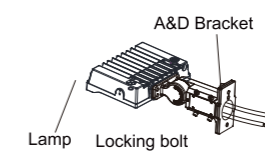

Figure 4.1
Step 1: Remove the spare parts from A&D bracket. (Figure 4.1)
Step 3: Place the bracket into the pole and lock the four bolts. (Figure 4.1)